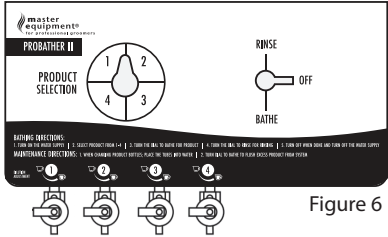

Figure 6
7. After bathing pet, turn the function knob to OFF and turn the shampoo source knob to neutral position, as shown in Figure 6. Turn the dilution valves to OFF.